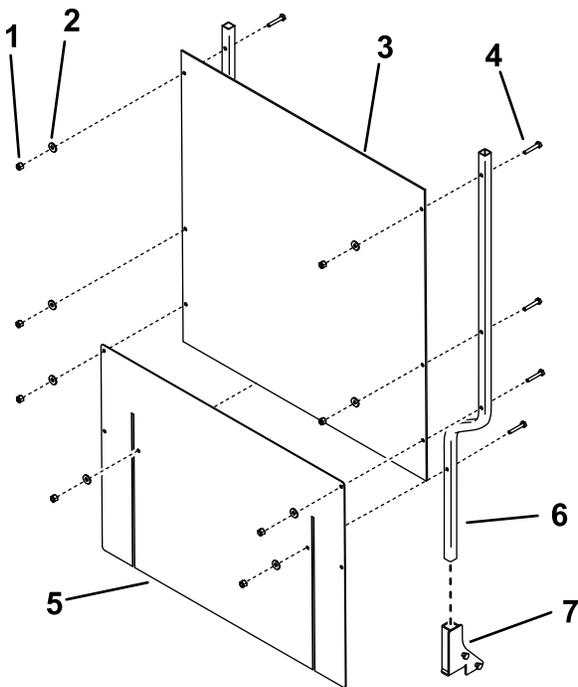

Figure 9
1. Slide the shield supports into the pockets in the shield brackets on the traction unit (Figure 8 or Figure 9).
- Assemble the shield and flexible skirt to the shield supports as illustrated in Figure 8 or Figure 9, using 8 bolts (1/4 x 1-1/2 inch), 8 washers, and 8 locknuts (1/4 inch).